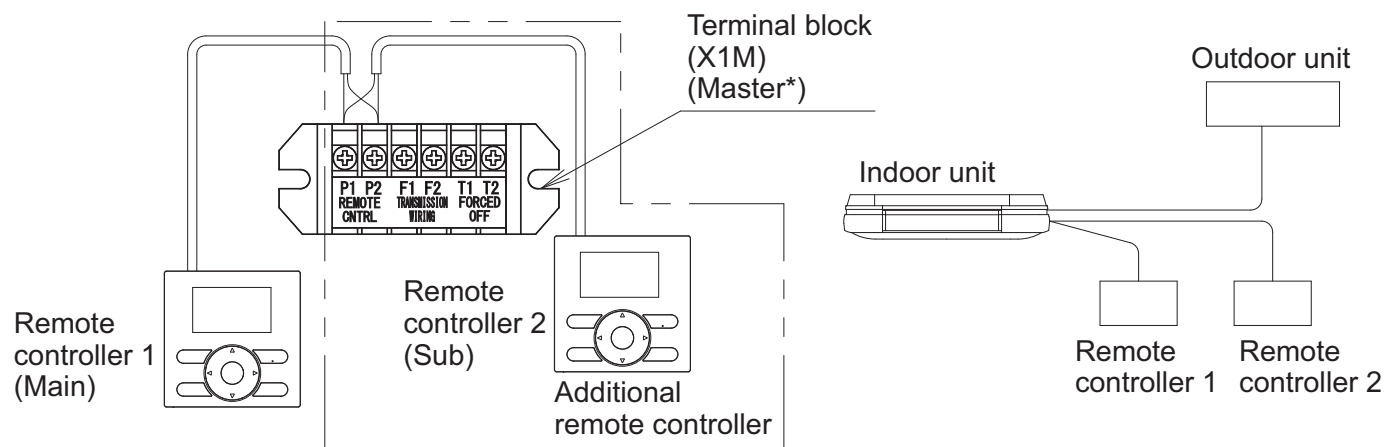

Fig. 46
- (1) Remove the control box cover according to the “**8-3 WIRING CONNECTION METHOD**”.
- (2) Carry out additional wiring from the remote controller 2 (Sub) to the terminals (P1·P2) for remote controller wiring on the terminal block (X1M) in the control box. (There is no polarity.) (Refer to Fig. 46)